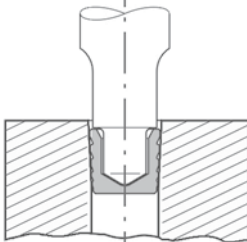

Fig. 2
- / The LP-plug can now be pressed in with the setting tool. Corresponding approximate values for stroke S are from the table below (Fig. 2).